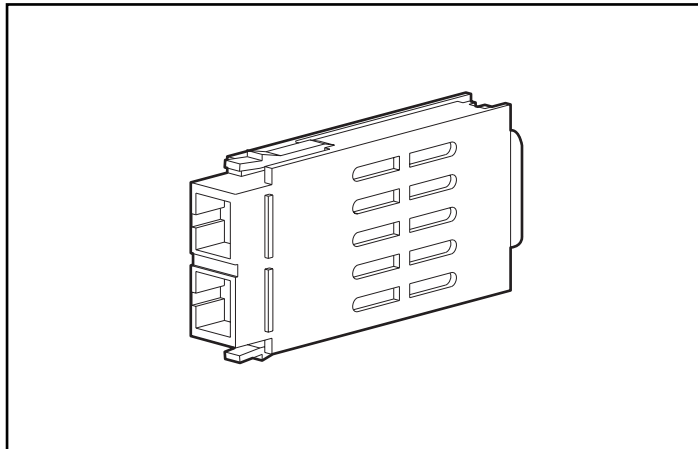

Figure 2-15. GigaBit Interface Converter Module (GBIC)
- All cables should run through the cable channel on the left side of the rack. See Figure 2-15.